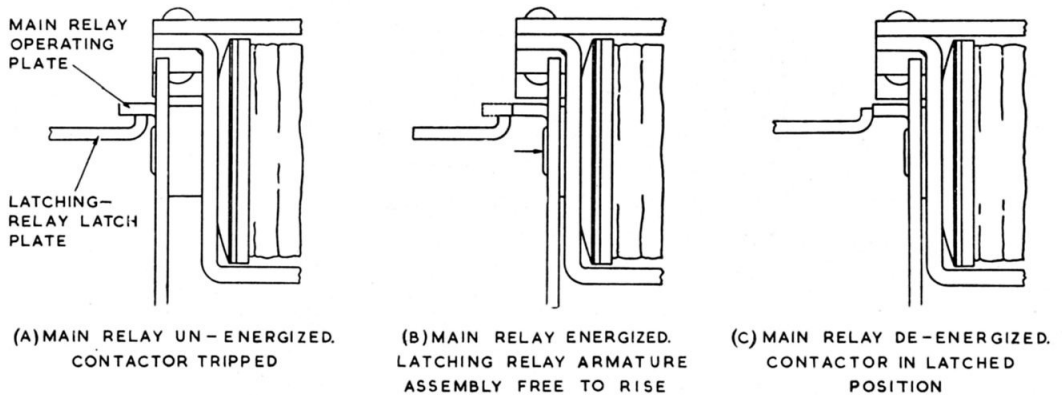

Fig. 3. Operation of latch mechanism
6. When the main relay armature has reached its fully-home position, the resultant latch clearance (*fig. 3*) allows the latching